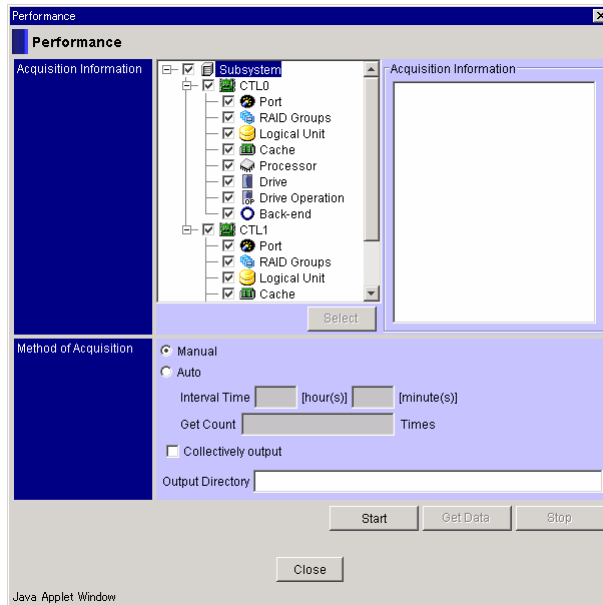

Figure 12.2 Performance Window
1. On the Tools menu, select **Performance** → **Output File** or click . See Figure 12.2.